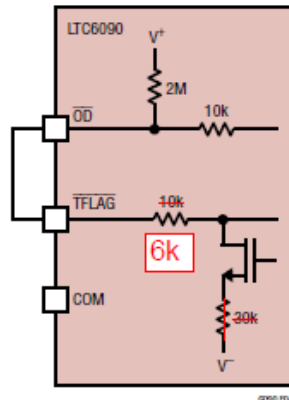

Figure 4. Automatic Thermal Output Disable Using the TFLAG Pin
- ~~As already stated, if the COM pin is left floating, simply tying  $\overline{OD}$  to  $\overline{TFLAG}$  (as shown in Figure 4) will result in the proper operation of thermal shutdown regardless of the supply voltages chosen. The output stage will be safely disabled should the die temperature reach  $145^{\circ}C$ . The COM pin may also be tied to ground in this configuration so long as  $V^-$  is biased more negatively than  $-3V$  with respect to ground for proper thermal shutdown operation.~~
~~For safe operation, tying the  $\overline{TFLAG}$  pin to the  $\overline{OD}$  pin will automatically shut down the output stage as shown in Figure 4. This will ensure the junction temperature does not exceed  $150^{\circ}C$ .~~